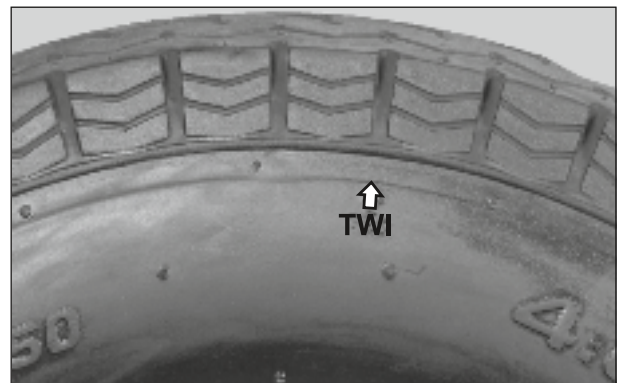

Fig. 2.114
- Replace tyres once it wears upto Tyre Wear Indicator (TWI) mark. (Fig. 2.114)